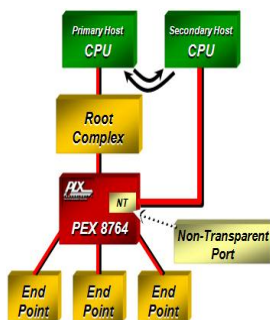

Figure 3: Non-Transparent Port
In Single-Host mode, the PEX8764 supports a **Non-Transparent (NT) Port**, which enables the implementation of **dual-host systems** for redundancy and host failover capability. The NT port allows systems to isolate host memory domains by presenting the processor subsystem as an endpoint rather than another memory system. Base address registers are used to translate addresses; doorbell registers are used to send interrupts between the address domains; and scratchpad registers (accessible by both CPUs) allow inter-processor communication (see Figure 3).